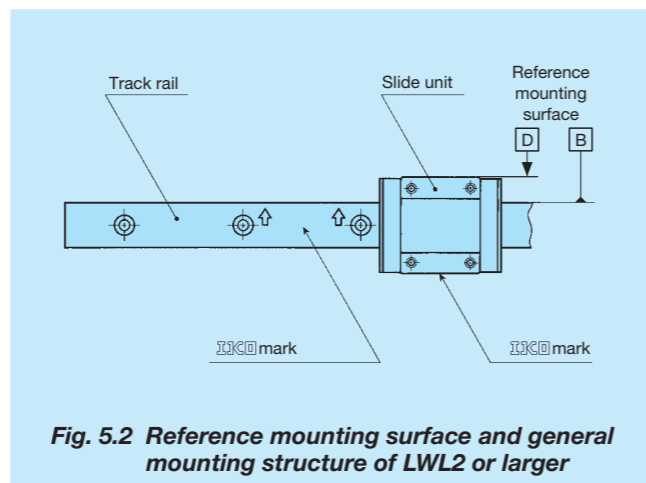

Fig. 5.2 Reference mounting surface and general mounting structure of LWL2 or larger
The reference mounting surfaces B and D (D1 and D2) and the mounting surfaces A and C of ML(F) and LWL(F) series are accurately finished by grinding. Stable and high accuracy linear motion can be obtained by finishing the mating mounting surfaces of machines or equipment with high accuracy and correctly mounting the guide on these surfaces. Reference mounting surfaces of slide unit and track rail are shown in Fig. 5.2.